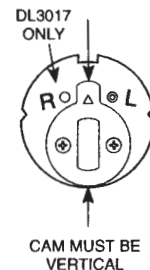

Figure 5-1
**Caution:** Cam must be vertical during installation of the thumbturn cylinder. See Figure 5-1.